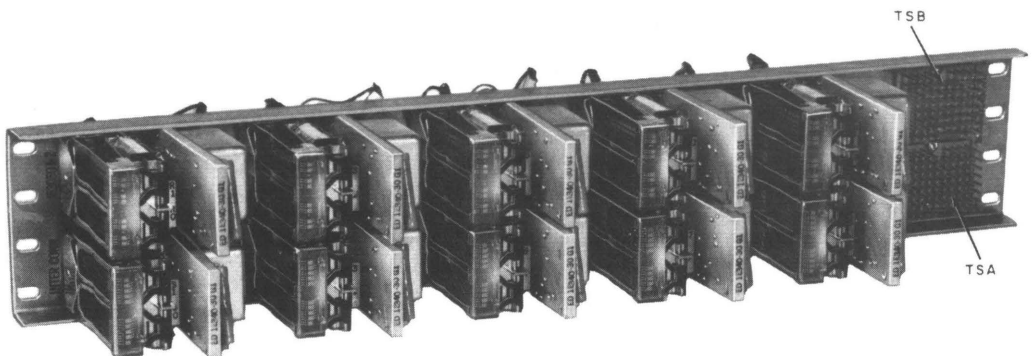

Fig. 1—J53050J-2, List 1 Interconnecting Unit
1.04 The J53050J-2, List 1 IU (Fig. 1) provides a means for connecting up to ten secretarial lines from a telephone company central office (CO) to customer-provided equipment (CPE), typically a telephone answering service bureau.